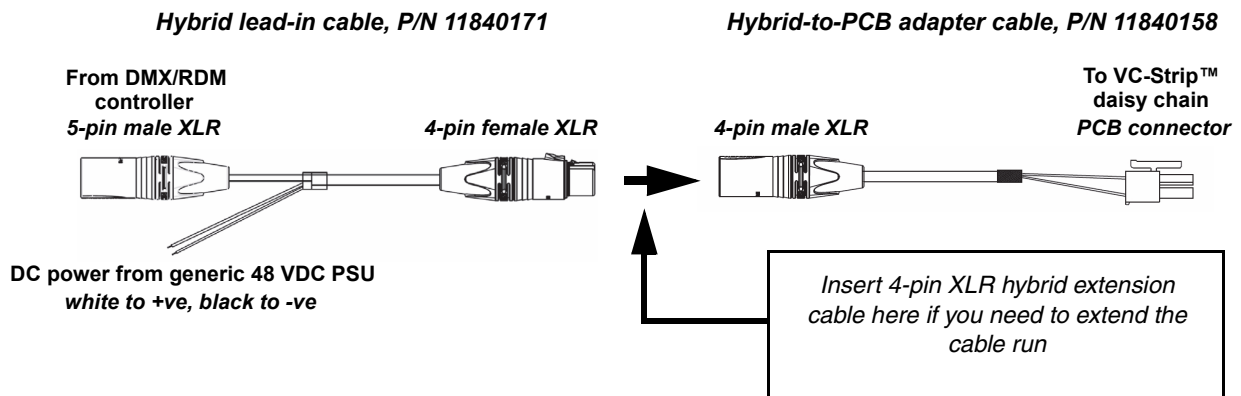

Figure 8: Generic PSU and DMX input
- If you are using a **generic external PSU**, see Figure 8 below. Connect the two DC power wires on a Martin™ hybrid lead-in cable (P/N 11840171) to a DC output on the PSU. Connect the white wire to positive (+ve) and the black wire to negative (-ve).